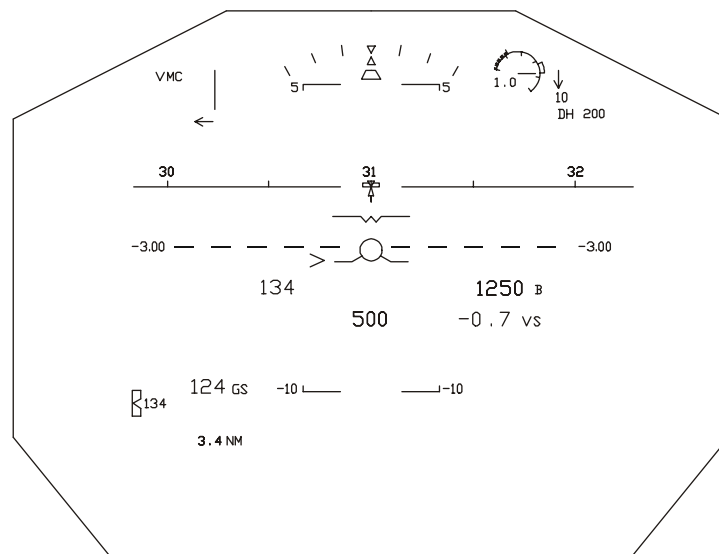

Figure 3-17:
VMC Mode allows for visual approach operations. In VMC Mode the left-side pilot establishes and maintains the aircraft on the proper glide path to the runway without reference to a ground-based landing system (ILS, VASI, etc.). VMC Mode approach symbology (Figure 3-17) is in the same format as AIII, AII, AI, and F/D Modes with one exception: in VMC Mode the HGS does not show a guidance cue. Instead, the left-side pilot uses the Flight Path and Glideslope Reference Line to manually control the approach using visual cues. This is particularly beneficial during approaches at night or with poor visual cues.
- The Combiner display shows VMC mode symbology (Figure 3-17).